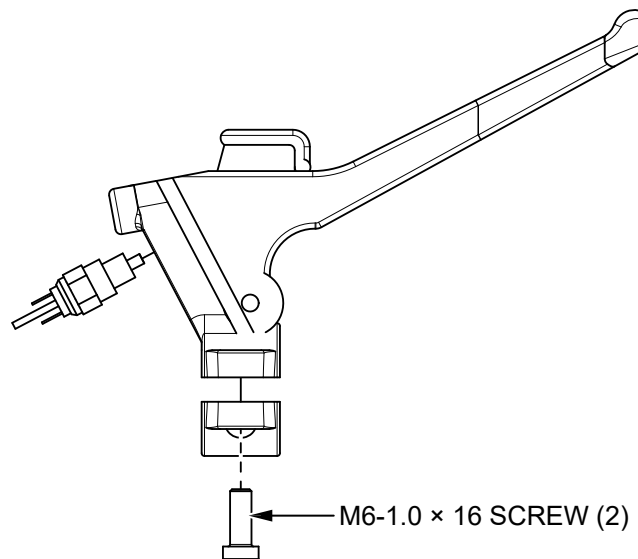

Figure 4. Remove Existing Throttle Lever
4. Remove the **two M6-1.0 × 16 screws** (Figure 4) securing the existing throttle lever to the handlebar.